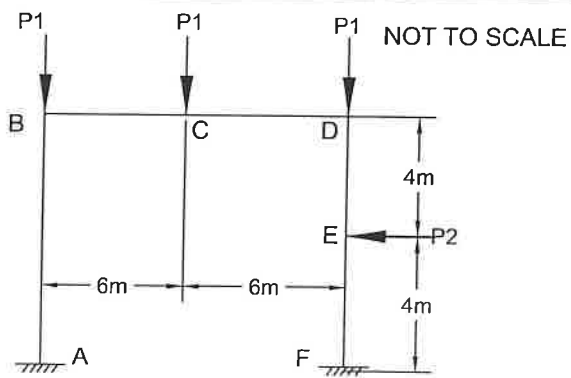
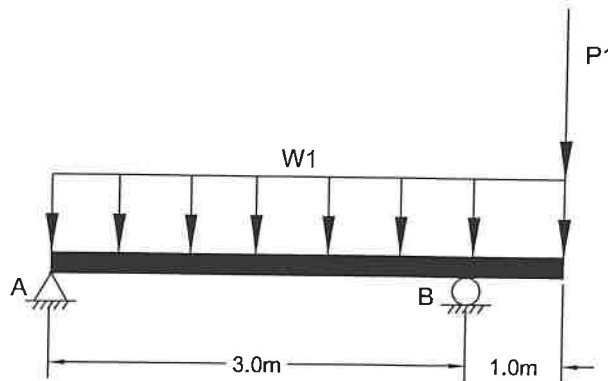

FIGURE 2
FIGURE 4
- A2. Assuming the column and beam sections for the frame shown in Figure 2 are the same determine the most appropriate wide flange section to be used.
- A3. Referring to the sway frame in Figure 2, the fabricator wishes to make the system out of one section (member AB, BD and DF are all to be the same W section). What W section can be used for this system?
**Part B (Do TWO (2) of three (3) questions)**
- B1. For the beam shown in Figure 4 design a reinforced concrete cross-section which can resist the moment and shear forces which develop. Assume a concrete strength of 35MPa and a width to depth ratio of 1 to 3. The beams are to be spaced at 2m on center.
- C1. Referring to Figure 4 design a prestressed beam section to resist the defined loading condition. Assume the beam is fabricated by a CSA certified shop, all strands at 1860MPa low relaxation type and the concrete is 40MPa. Define the long-term deflection under dead load and verify all stresses at each stage. The concrete strength at the strand release is 30MPa. Beams are located at 2m on center.